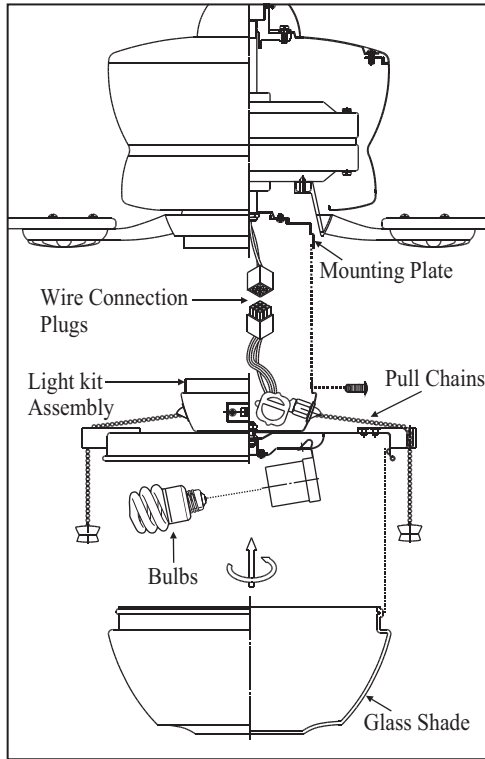

Figure 16
2. Carefully push all wires back into the switch housing, then install the light kit assembly onto the mounting plate with 3 screws provided. Be sure to tighten all screws. (Fig. 16)
4. Raise glass shade up against the light kit and secure it to fan by turning glass counterclockwise until snug. **DO NOT OVERTIGHTEN.** (Fig. 16)
5. Pass the two pull chains on the light kit through the chain holders located on the light fitter, install the fobs to the pull chains. (Fig. 16)